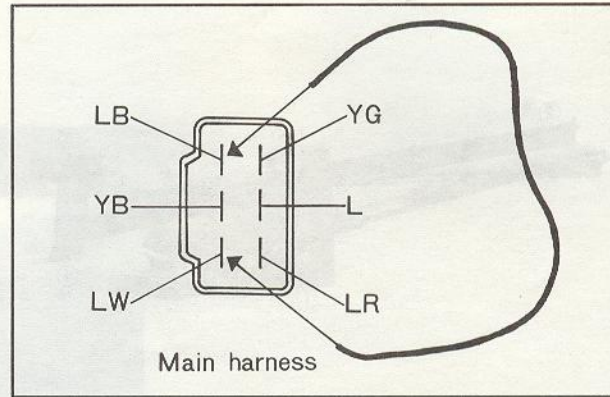

Fig. 15-63 Checking auto-stop circuit
6. Connect a jumper wire between the blue-black wire and the blue-white wire. The wipers should return to the park position. (Fig. 15-63)